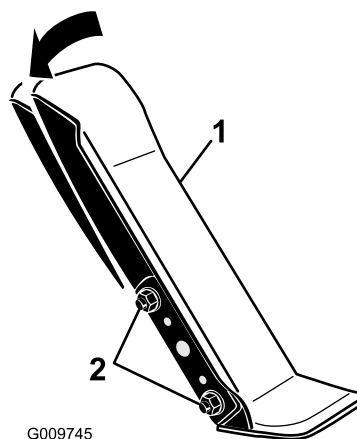

Figure 101
1. Loosen the 2 nuts and bolts securing the left side of the traction pedal to the bracket (Figure 101).
2. Pivot the pedal to the desired operating angle and tighten the nuts (Figure 101).